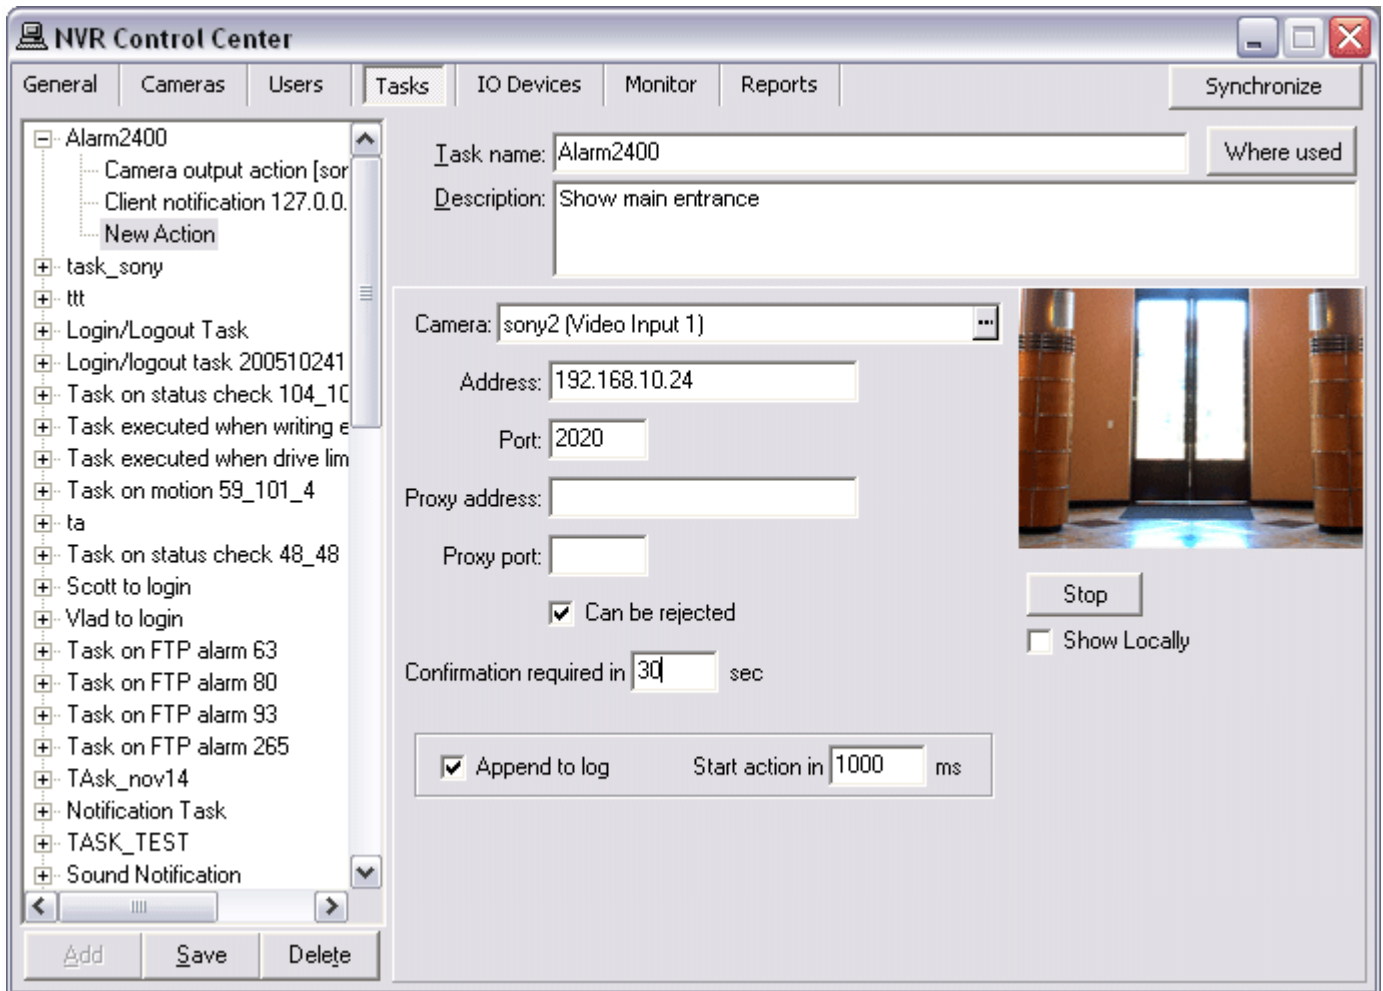

Fig 81. NVR Control Center — Tasks
1. Setup a viewing terminal **Address** and **Port number** (Fig 81).